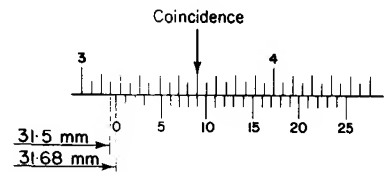

Fig. 4.7 The reading of the vernier is 31.68 mm
To read the metric vernier shown in Fig. 4.7, the first thing to notice is that 25 vernier divisions are equal in length to 24 main scale divisions, each main scale division being 0.50 mm. Thus the instrument can be read to an accuracy of 0.02 mm.
- (1) Read off the number of millimetres up to the zero line on the vernier. This is 31.5 mm.
- (2) Find the mark on the vernier scale which coincides with a mark on the main scale (this is in Fig. 4.7). Thus, the vernier scale has moved $9 \times 0.02 = 0.18$ mm beyond the 31.5 mm mark.